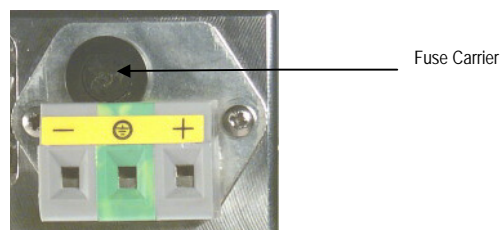

Figure 7.3: Position of Fuse Carrier for -48 Vdc Input
2. Unscrew the fuse carrier and remove the old fuse (see *Figure 7.3*).